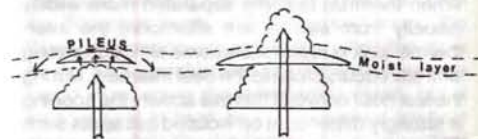

Fig 13
- A lenticular cap of cloud may appear just above the top of a growing cumulus. This has the latin term "pileus". The formation shows that as the top of the cu ascends it pushes up some of the moist layer air above. This push is just enough to cool the upper layer below condensation point; it shows that the layer was nearly saturated at that level before the cu formed. Pileus is an almost infallible sign of subsequent spread out. (Fig 13.)